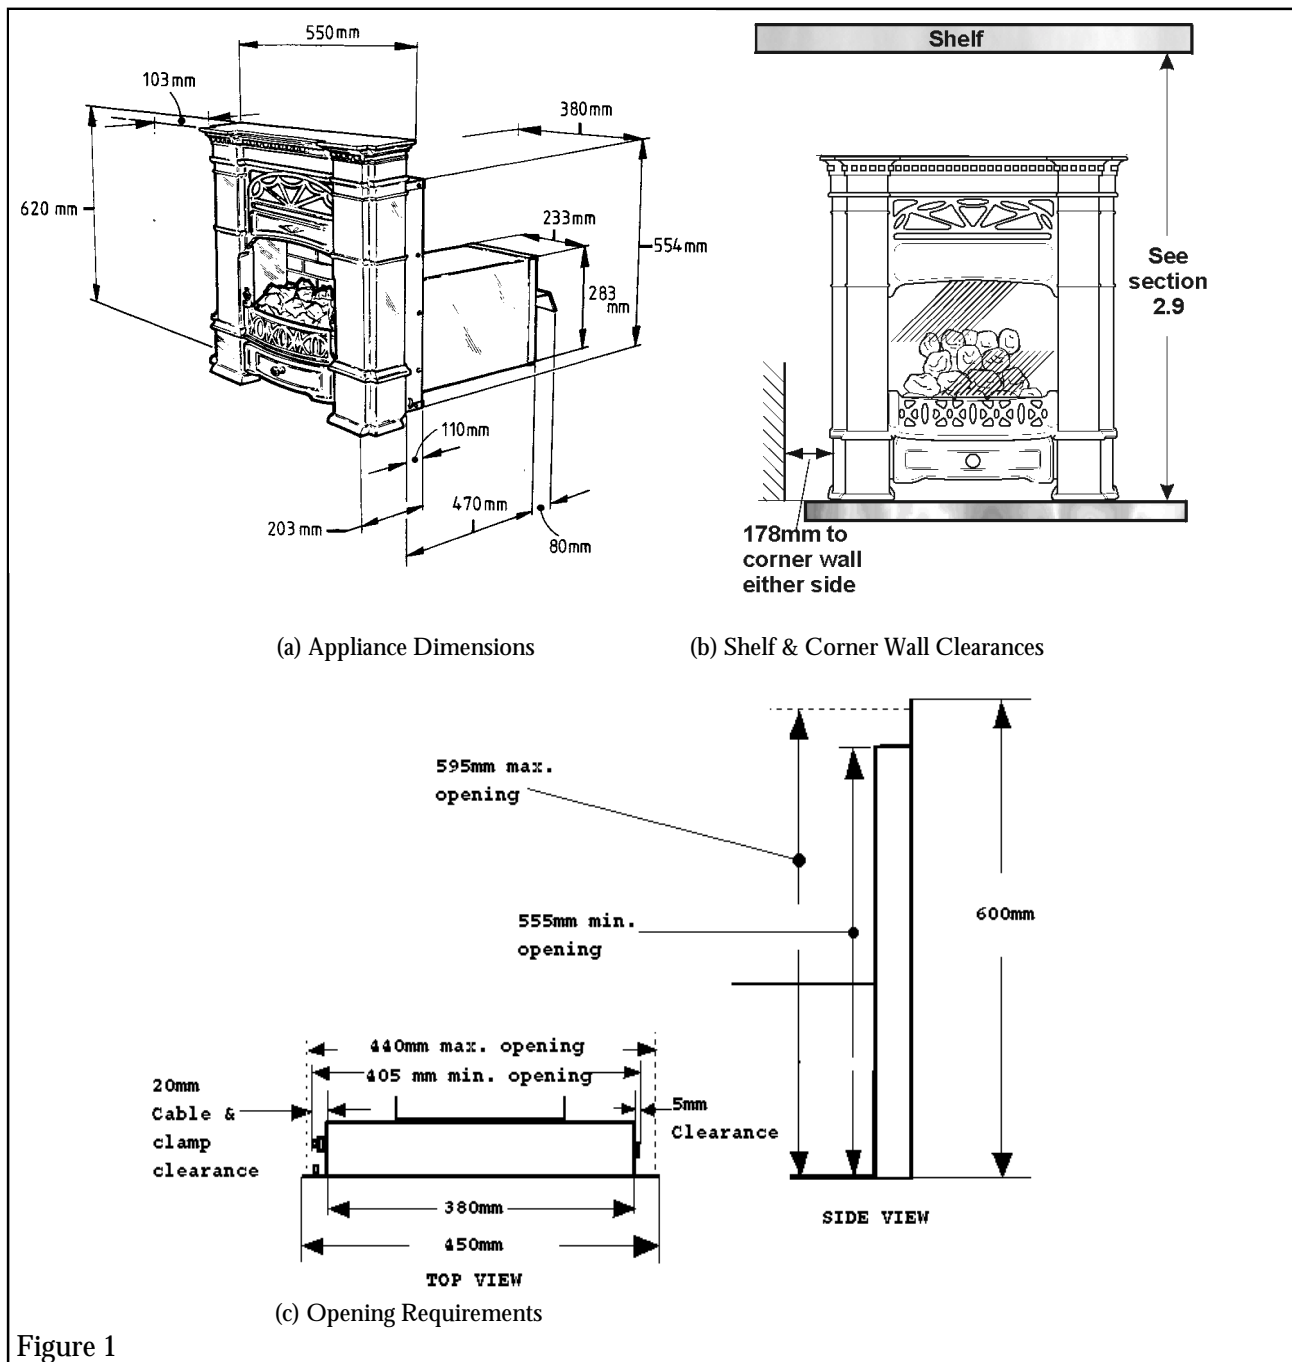

Figure 1
2.6 The opening in the surround or wall recess for the convection box must be within the limits shown in figure 1(c)
5.3.3 The recess in the inner wall for the convection box should be to the size shown in figure 1. The bottom of this recess should be at the same level as the top surface of the hearth.